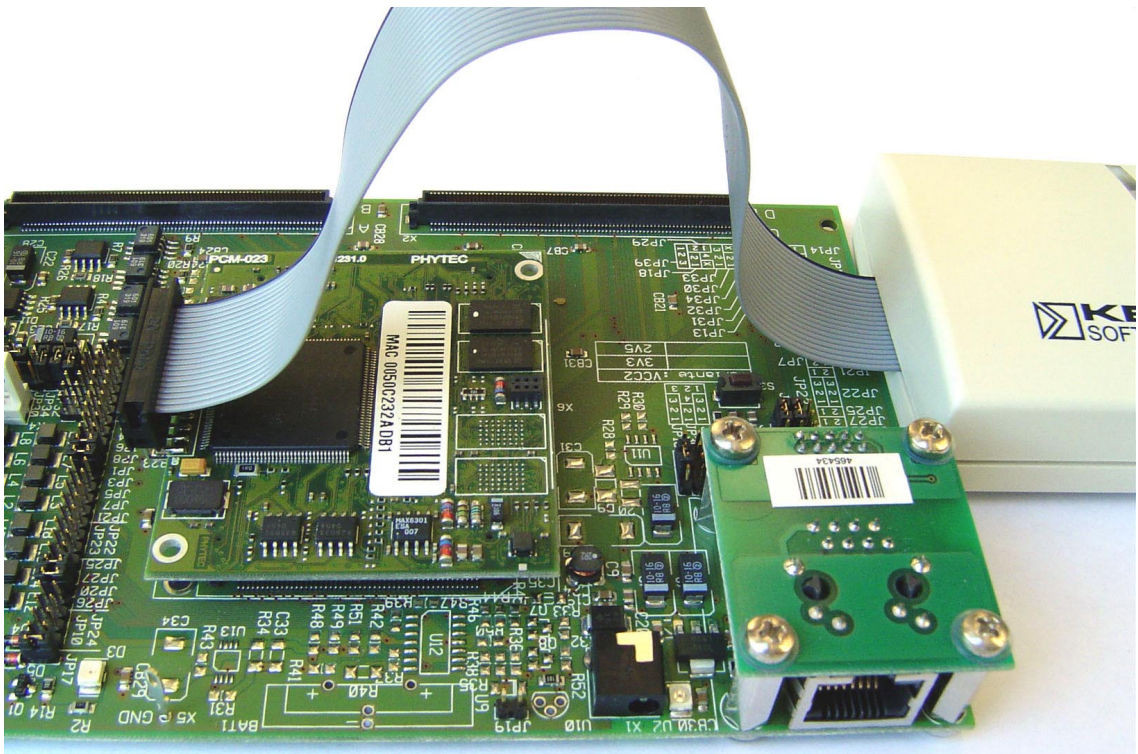

Figure 3: ULINK Connected to the phyCORE® Module
- Mount the phyCORE® module, pins-down, onto the Development Board's receptacle footprint (X6) as shown in Figure 3 below. Ensure that pin 1 of the module, designated by the hash stencil mark, matches pin 1 of the receptacle on the Development Board.